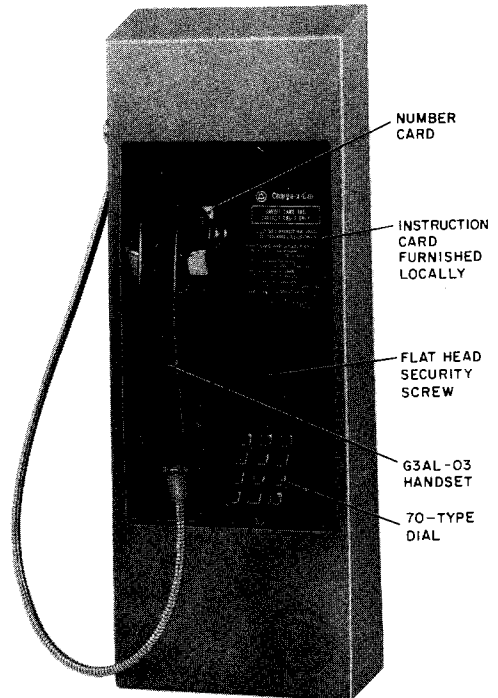

Fig. 1—10A Coinless Telephone Set
- (a) The 10A coinless telephone set (Fig. 1)
A. 10A Coinless Telephone Set (Fig. 1, 4, and 6)
- 2.06 The instruction card (Fig. 1 and 7) must be fabricated and procured locally.